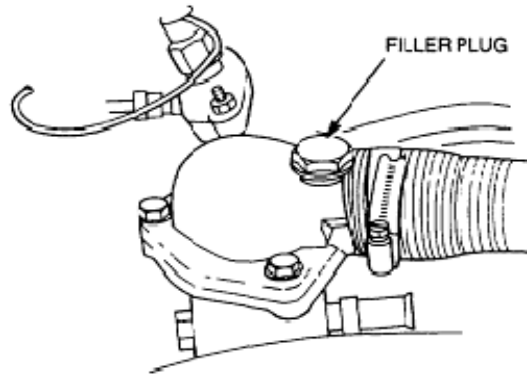

Figure 18 Thermostat Removal
- e. Loosen the hose clamp securing the top radiator hose to the thermostat housing (Figure 18).
- a. Remove the brass filler plug from the thermostat housing (Figure 18).